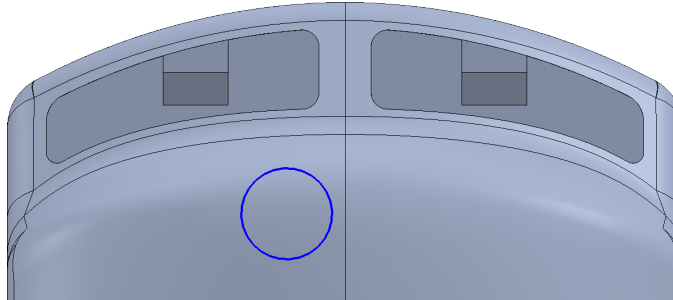

Fig. 117
Step 3. Click **Circle**  (S) on the Sketch toolbar.
Step 4. Sketch **circle**, **Fig. 117**.